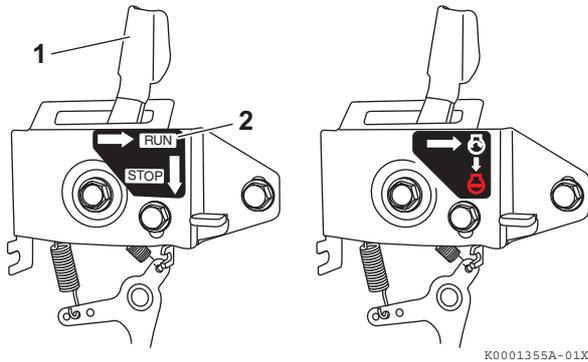

Figure 12
- If your engine speed control is similar to **Figure 12** slide the engine speed control lever (**Figure 12, (1)**) to the RUN position or (**Figure 12, (2)**).